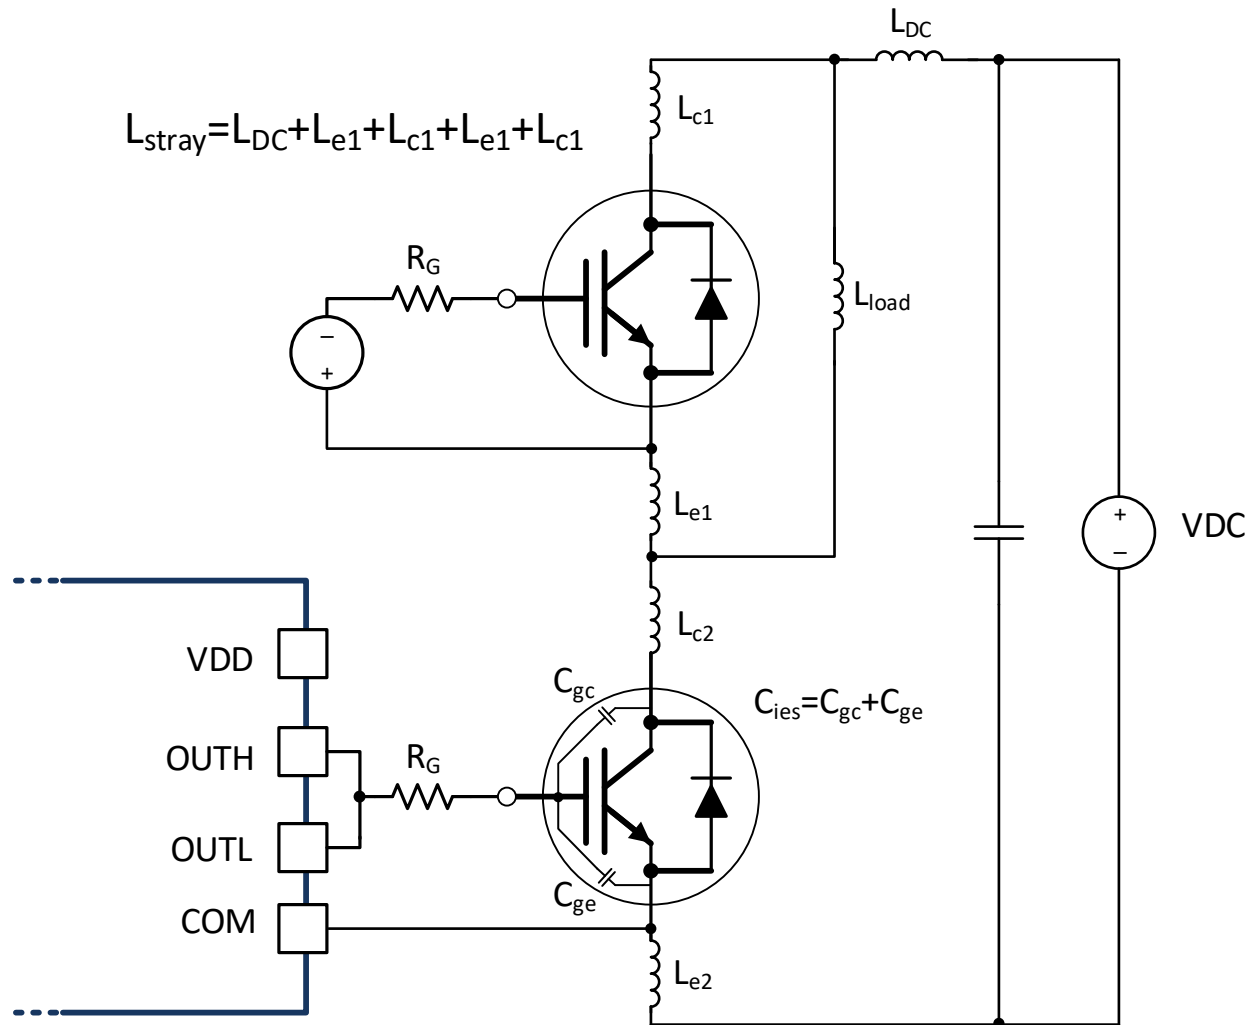

FIG 49. Stray Parasitic Inductance of IGBTs in a Half-Bridge Configuration
- $L_{\text{stray}}$  is the stray inductance in power switching loop, as shown in 图 49